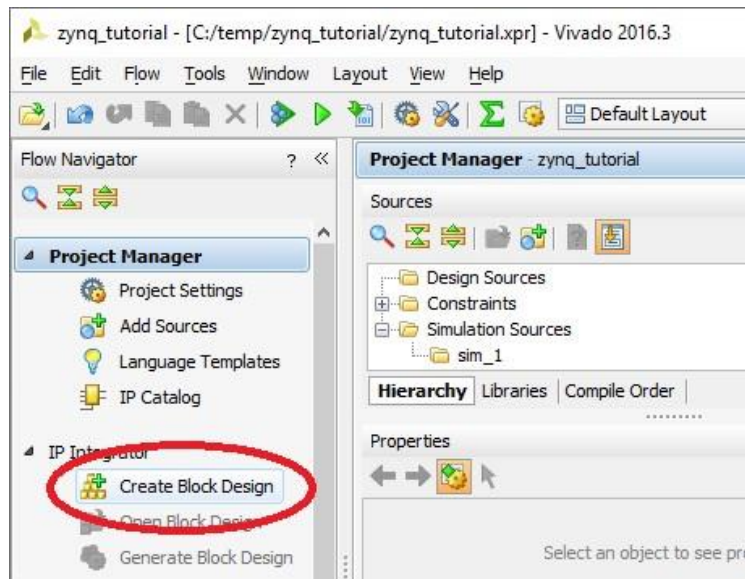

Figure 3: Create Block Design option in Flow Navigator.
1. In the Flow Navigator, select **Create Block Design** (Figure 3).